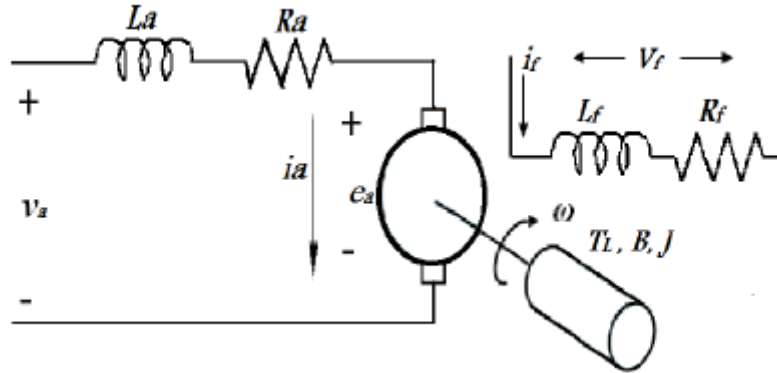

Figure 3: Equivalent circuit for a separately excited DC Machine.
1. When working with electric machines, one often uses the so called equivalent circuit of the machine. For a DC machine, the equivalent circuit can be seen in the figure 3.